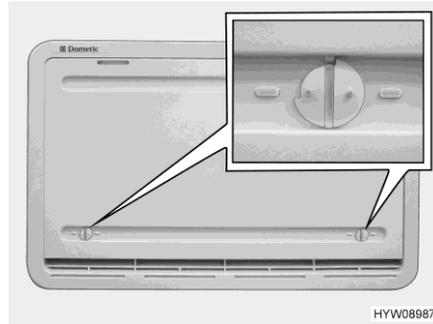

Fig. 265 Winter cover
If the refrigerator is to be operated at low external temperatures, the manufacturer recommends the use of a winter cover (Fig. 265) for the refrigerator ventilation grills.
- Open both locks (Fig. 265) (groove in horizontal position).